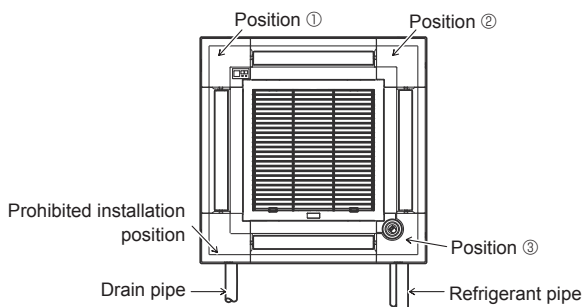

Fig. 6-11
The signal receiver corner panel can not be installed on the drain pipe side for the main unit. (Refer to Fig. 6-11)
- The i-see Sensor corner panel should be fixed onto the grille (D) with screw (F).
- If the position of the i-see Sensor was changed from default position (position ③) to the other position, change the function settings. (Fig. 6-11)
- The i-see Sensor corner panel can not be installed on the drain pipe side for the main unit. (Refer to Fig. 6-11)